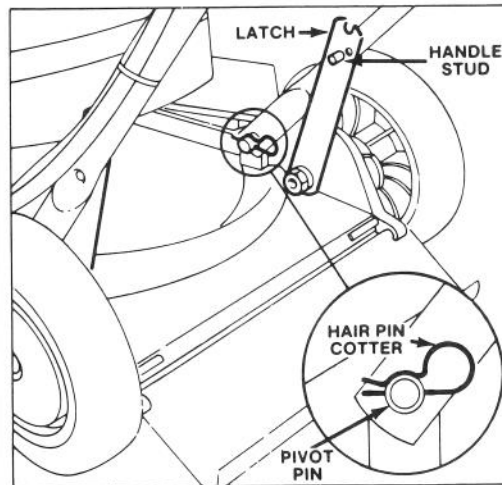

Figure 1
1. LOWER HANDLES (Fig. 1) – Push ends of handle together and install on pivot pins. Move handle and latches backward until handle studs snap into center hole. Push hair pin cotter through holes in pivot pins.